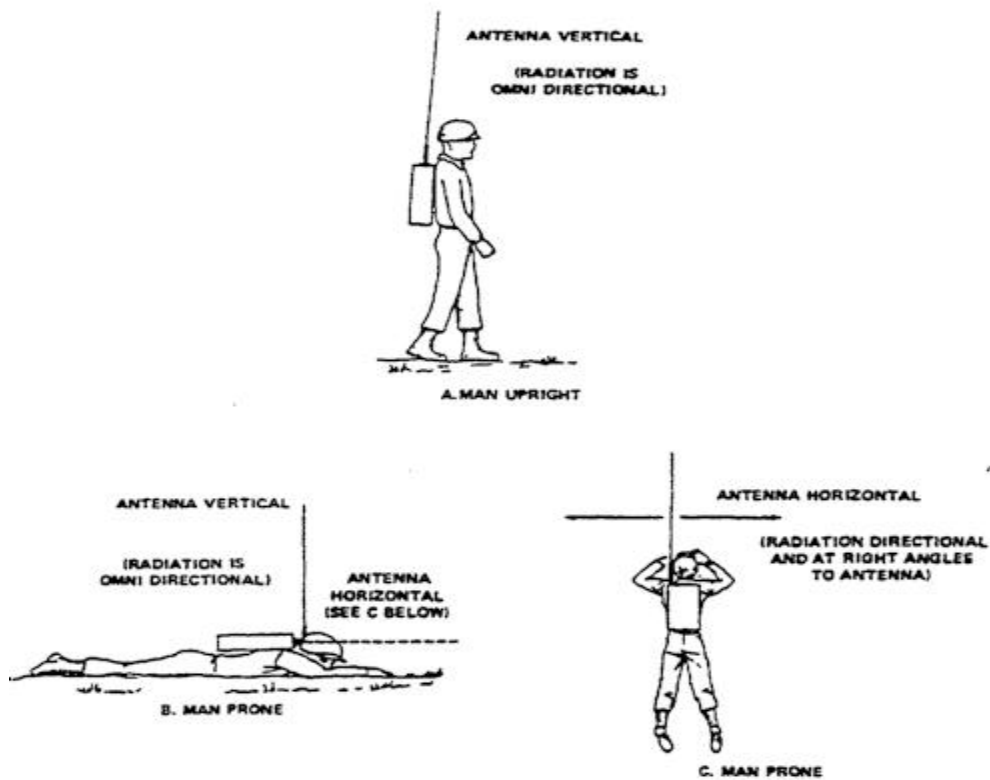
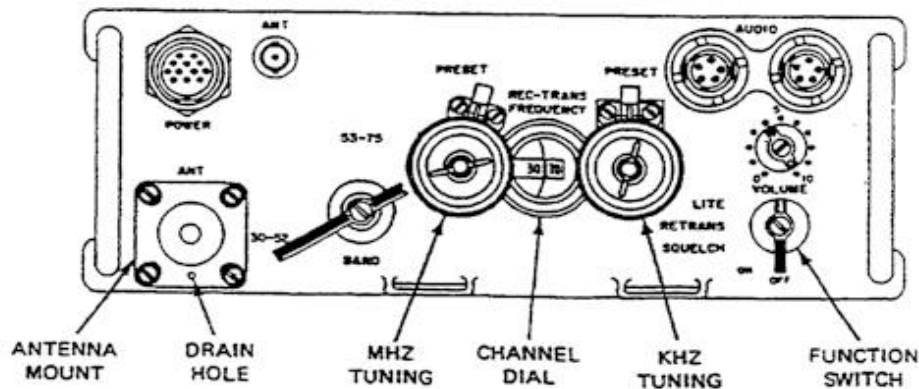
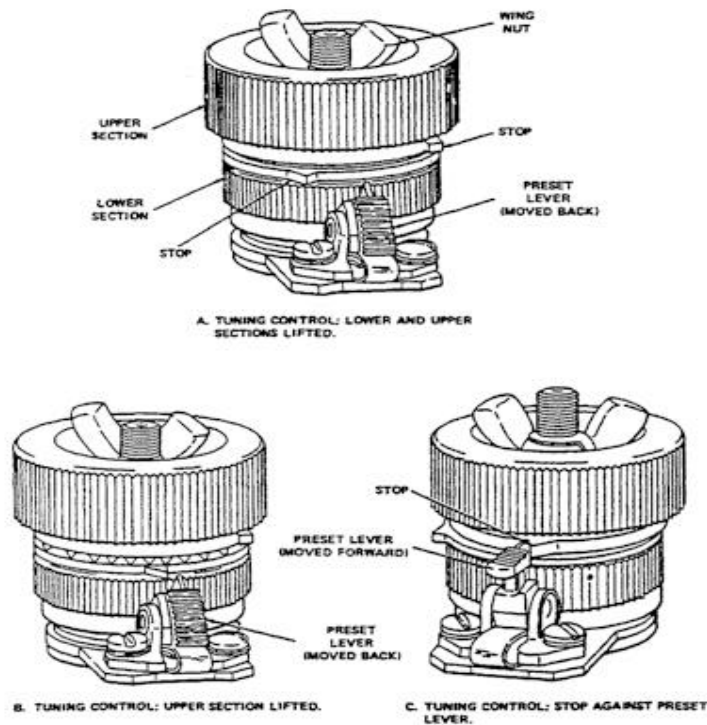

Figure D-11. Orientation of AT-892/PRC-25 in Various Positions on User
Figure D-12. Receiver-Transmitter, Radio RT-841/PRC-77 Controls, Indicators, and Connectors
Figure D-13. Presetting MHZ and kHz Tuning Controls
(1) Remove the cover from the whip ANT receptacle.
(2) Screw the blade section securely to the spring base section. Screw the spring base section securely to the whip ANT receptacle.
(3) The AT-892/PRC-25 spring base section permits positioning of the antenna at any angle other than vertical to the top of the receiver-transmitter. For best communication, the antenna should be vertical to the ground (A and B, Figure D-11). When the operator or the transmitter is in a position other than vertical to the ground, the antenna should be adjusted so that it is vertical to the ground.
If the vertical position would reveal the operator's position, the antenna can be positioned so that it is horizontal to the ground (C, Figure D-11). Under this situation, the direction of communication is broadside to the antenna.
D-21. Receiver-Transmitter, Radio RT-841/PRC-77, Control, indicators, and Connectors (Figure D-12).
See (Figure D-12) for controls, indicators and connectors for Receiver-Transmitter, Radio RT-841/PRC-77.
D-22. Presetting Channel Frequencies (Figure D-12 and D-13).
On the MHZ and kHz controls (Figure D-12) are preset levers that can be set to catch the stops on each control (Figure D-13). Thus, when two channels are preset, they can be selected without looking at the channel dial (Figure D-12). Use the procedures in a. below to set the kHz control; use the procedures in b. or c. below to set the MHZ control.
When presetting the controls, the two frequencies to be set must be considered the lower and the higher frequencies; and the sections of each tuning control as the inner (next to the front panel) and to the outer sections (Figure D-11).
(1) Set the preset lever away from the kHz control (A and B, Figure D-11).
(2) Set the kHz control so that the lower frequency appears in the channel dial.
(3) Position the preset lever forward against the control, (C, Figure D-13) and loosen the wingnut on the control.
(4) Pull up on the upper section of the control and turn it counterclockwise until the stop on the lower section strikes the preset lever. Tighten the wingnut.
(5) Position the present lever away from the control.
(6) Turn the control until the higher frequency appears in the channel dial (both sections move).
(7) Loosen the wingnut and position the present lever forward against the control.
(8) Without disturbing the setting of the lower section, pull on the upper section and turn it clockwise until its stop strikes the preset lever.
(9) Keeping the upper section against the preset lever, tighten the wingnut.
(10) Check the settings by turning the control counterclockwise to the stop for the lower and higher kHz frequency settings by turning the control counterclockwise to the stop for the lower kHz frequency, and clockwise to the stop for the higher kHz frequency.
(11) Set the MHZ control (b. below).
**D-23. Selecting Preset Channels** (Figure D-12 and D-13).
**D-24. Operating Procedure** (Figure D-12).
*Do not change frequencies on BAND switch while the radio is keyed (in transmit mode). When using magnesium battery BA-4386/U, wait approximately 1-2 minutes before transmitting (e. below) to allow battery to develop full power. To obtain best operating range (distance), keep the whip antenna vertical to the ground. See figure D-11 for various positions the operator can use to keep the short antenna vertical.*
(1) Press the push-to-talk switch on the handset.
(2) Speak into the handset.